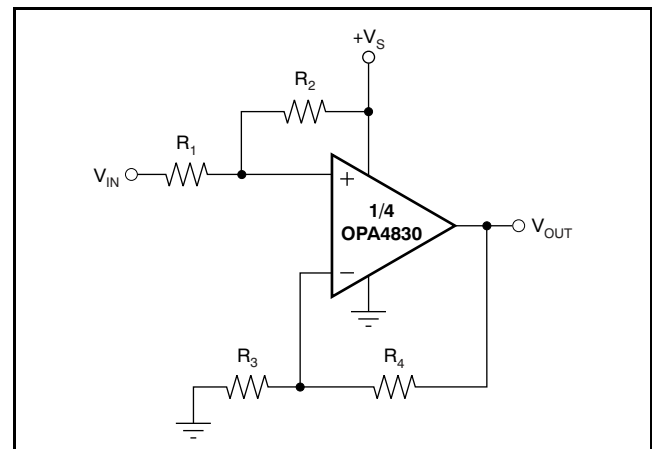

Figure 75. DC Level-Shifting
Figure 75 shows a DC-coupled noninverting amplifier that level-shifts the input up to accommodate the desired output voltage range. Given the desired signal gain (G), and the amount V_{OUT} needs to be shifted up (ΔV_{OUT}) when V_{IN} is at the center of its range, Equation 1 and Equation 2 give the resistor values that produce the desired performance. Assume that R₄ is between 200Ω and 1.5kΩ.